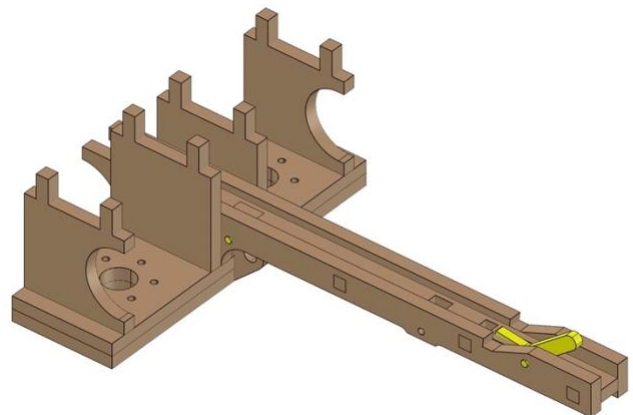

Fig. 20
- *Fig. 20* shows the completed process.